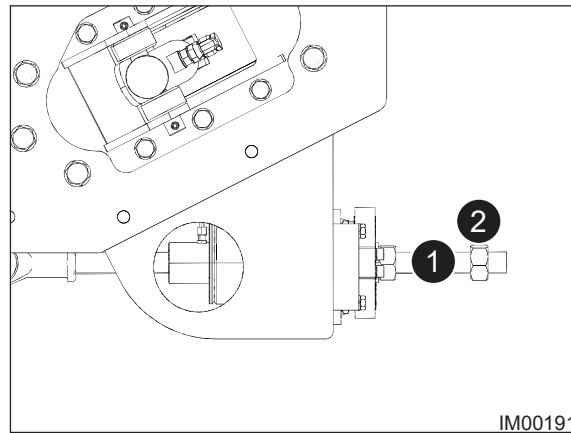

Fig: 7.16 - Tie Rod
4. Spray penetrating oil on the Tie Rod Threaded Bar (Item 1, Fig: 7.16).
5. Screw back the Lock Nut (Item 2, Fig: 7.16).